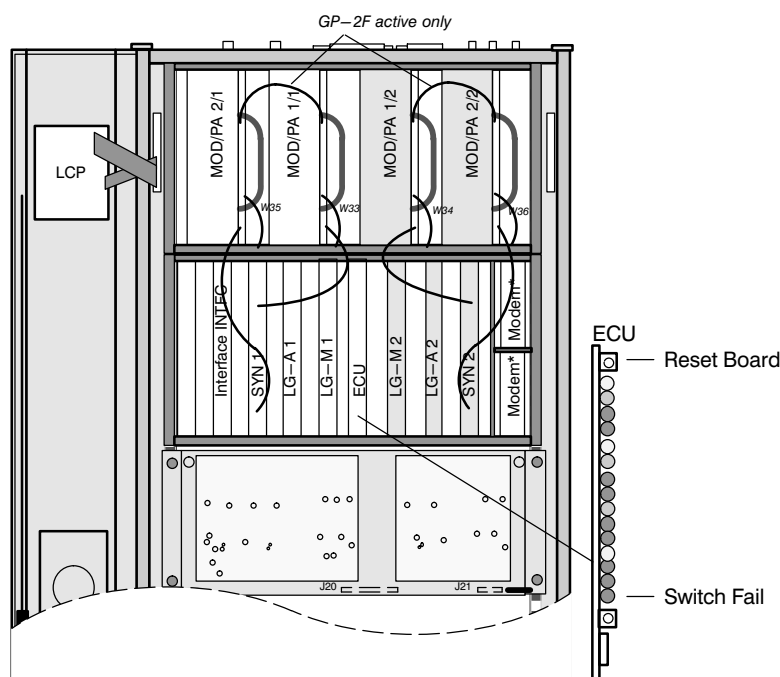

Fig. 6—10 Location of "Switch Fail" indication at ECU
After repair and mechanical check, the installation is switched on as normal. The necessary adjustments indicated in Fig. 6—7 have to be performed. All parameters have to be within limits and the system state indicates NORMAL again. The system is then operable.
**NOTE:** If the LED "Switch Fail" (Fig. 6—10) at the ECU is flashing, check correct fitting of subassemblies in the BP—MODPA and BP—Digital.